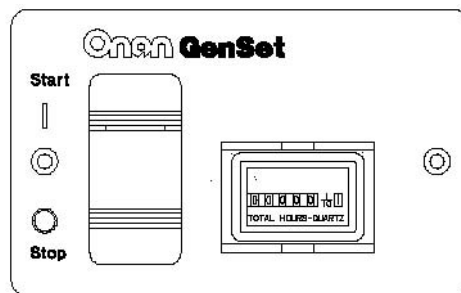

FIGURE 79. REMOTE SWITCH/HOUR METER
- Remote switch with status indicator light and hour meter (Figure 79).